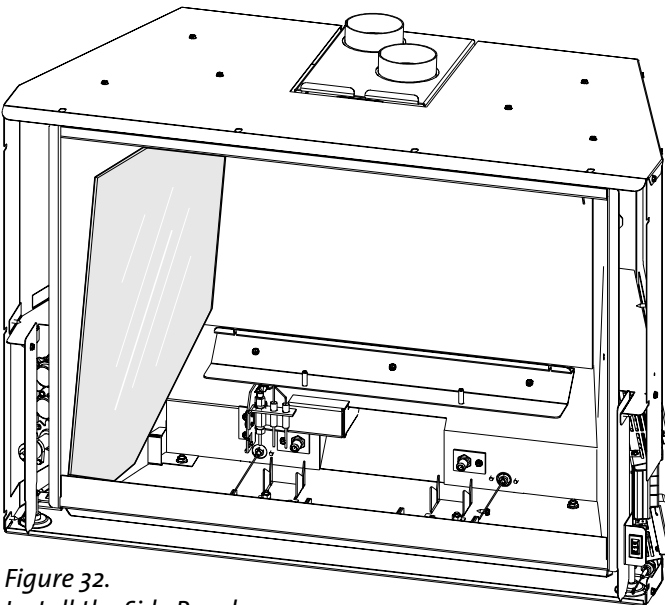

Figure 32. Install the Side Panels.
6. Place the front bottom corner of the Side Panel into the firebox while simultaneously guiding the rear corner onto the side of the log shelf. Rotate the panel inward and to the side until it is flush with the wall. Fig. 32.